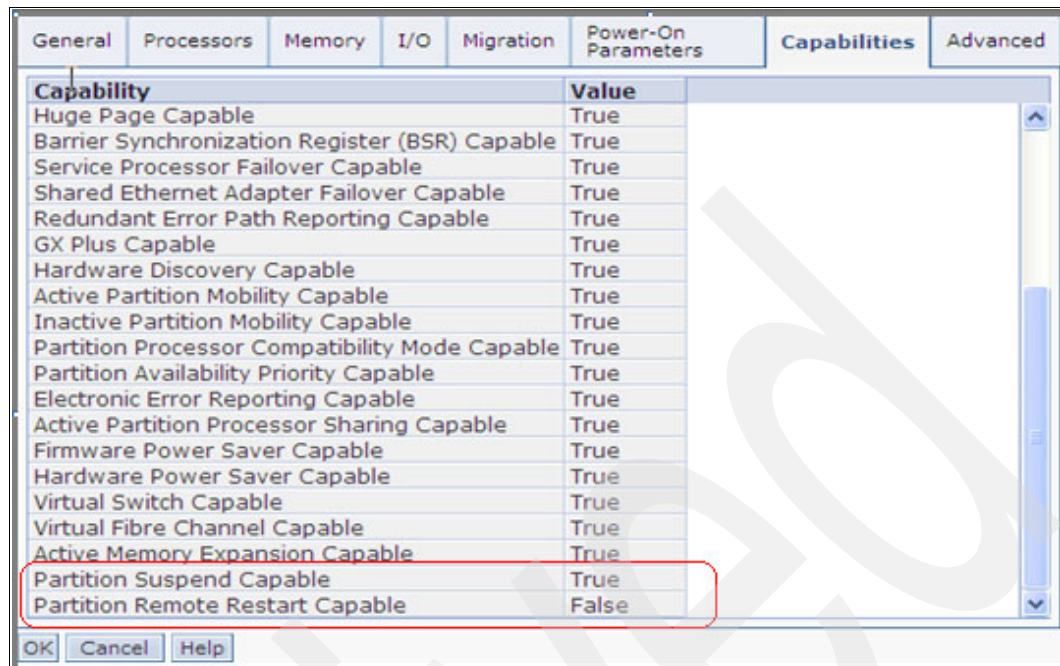

Figure 3-5 System capabilities for suspend resume
1. Confirm that your server is capable of suspend and resume. On the HMC, select **System Management** → **Servers**. Select the server you want. Click **Properties** → **Capabilities**. See Figure 3-5 on page 79.